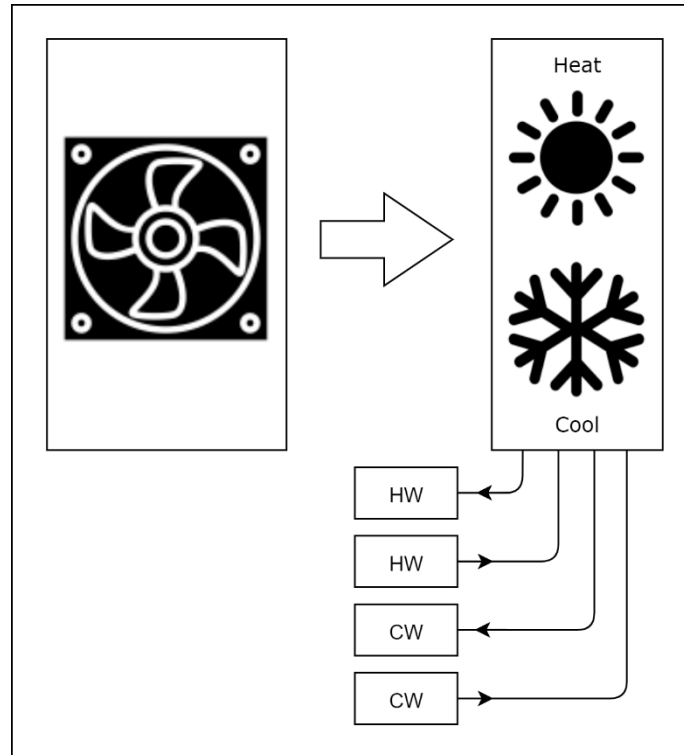

Figure 19 4 pipes fan coil system
The 4 pipe system consists of two separate cold water(CW) and hot water(HW) sources. Each source has its own set of pipes and valves for supply and return. The operation of 4 pipes system is demonstrated in Figure 19.